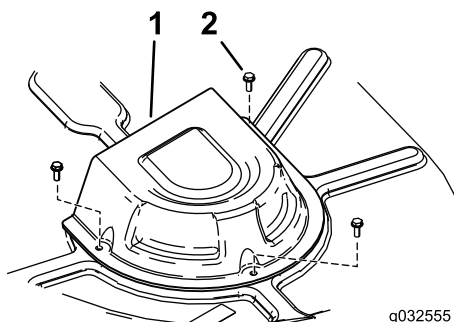

Figure 61
4. Remove the pulley covers (Figure 61).
8. Install the pulley covers (Figure 61).